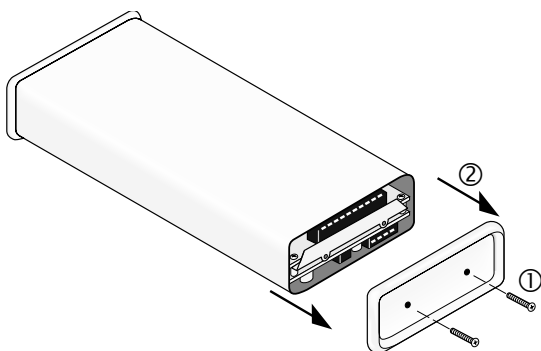

FIGURE 4. Removing the End Cap to Expose RF Shield
7. With a Phillips screwdriver, remove from the control module the two screws on the side opposite the connectors (① on Figure 4).
8. Pull the end cap away from the control module and expose the RF shield (② on Figure 4).